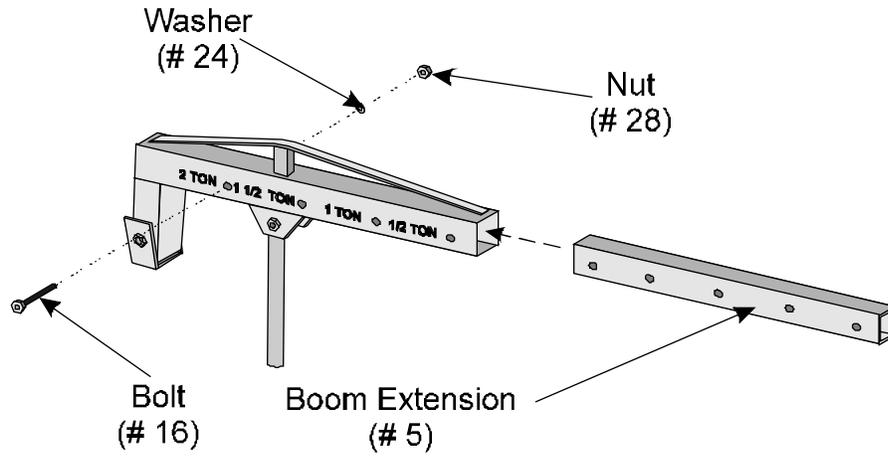

Figure 6 — Inserting the Boom Extension
Step 8: Slide the BOOM EXTENSION (10) into the BOOM and secure, at the desired load rating, using BOLT (16), WASHER (24) and NUT (28). (See Figure 6).